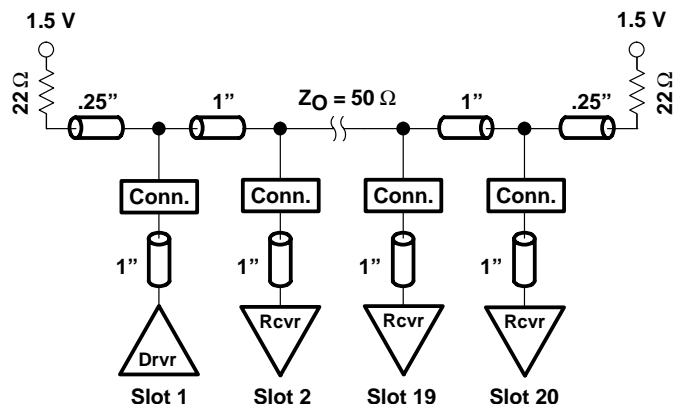
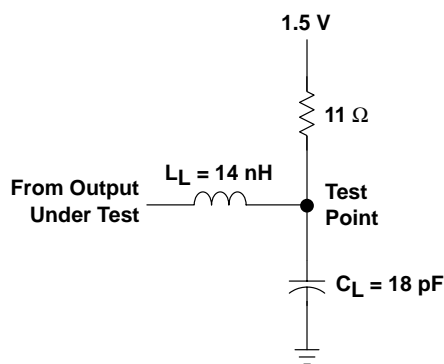

Figure 2. High-Drive Test Backplane
Figure 3. High-Drive RLC Network
The preceding switching characteristics table shows the switching characteristics of the device into a lumped load (Figure 1). However, the designer's backplane application is probably a distributed load. The physical representation is shown in Figure 2. This backplane, or distributed load, can be closely approximated to a resistor inductance capacitance (RLC) circuit, as shown in Figure 3. This device has been designed for optimum performance in this RLC circuit. The following switching characteristics table shows the switching characteristics of the device into the RLC load, to help the designer to better understand the performance of the GTLP device in this typical backplane. See [www.ti.com/sc/gtlp](http://www.ti.com/sc/gtlp) for more information.
**switching characteristics over recommended operating conditions for the bus transceiver function (unless otherwise noted) (see Figure 3)**